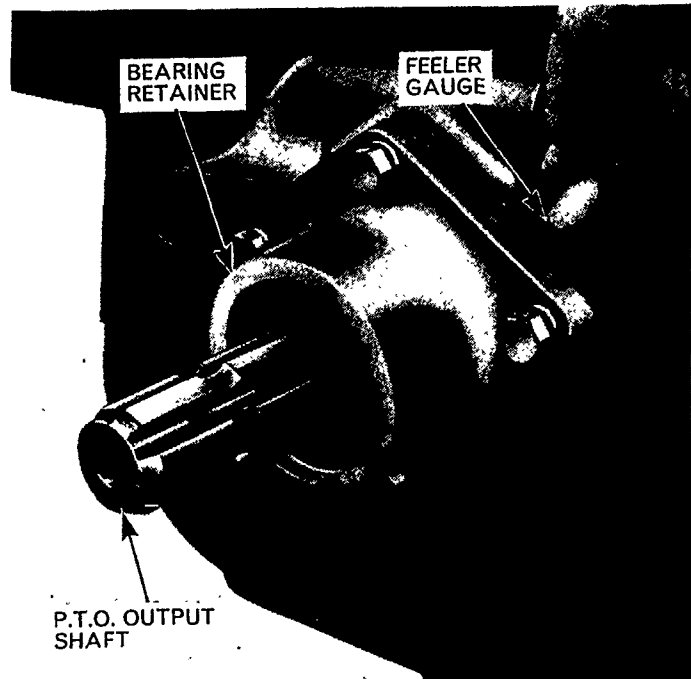

Figure 31
4. Install the P.T.O. output shaft bearing retainer without the spacing shims, and tighten the four retaining bolts finger tight. Rotate the shaft by hand to make sure that the bearings are correctly seated, and retighten the bolts to finger tight. Measure the gap between the output shaft housing and the centre housing with a feeler gauge, Figure 31, at various points to ensure the housing is parallel with the centre housing.